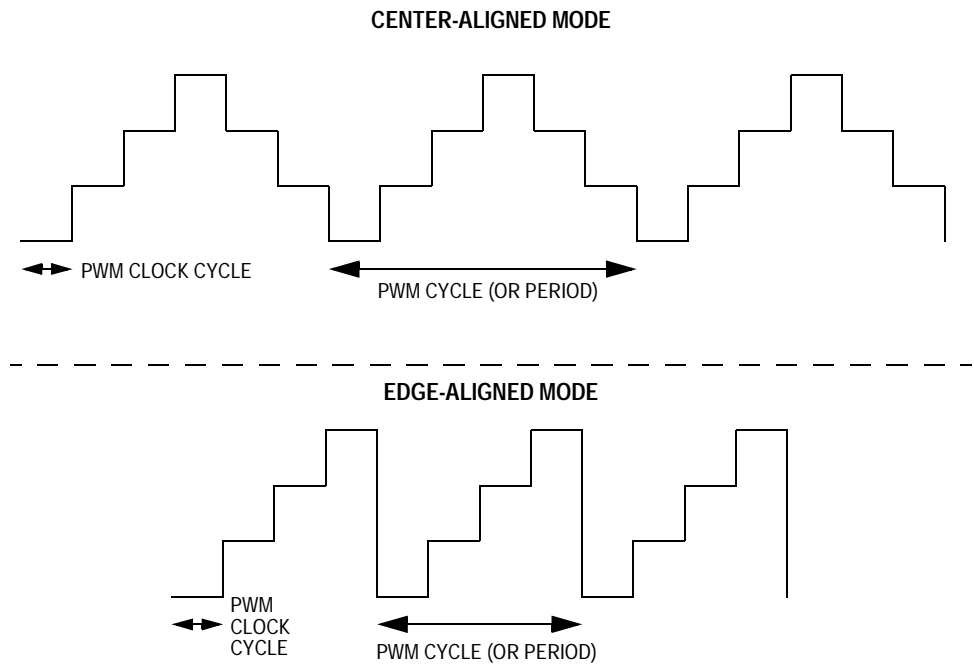

Figure 9-43. PWM Clock Cycle and PWM Cycle Definitions
PWM Clock Cycle (or Period) — One tick of the PWM counter ($1/f_{OP}$ with no prescaler). See **Figure 9-43**.
- Center-aligned mode: The time it takes the PWM counter to count up and count down (modulus * $2/f_{OP}$ assuming no prescaler). See **Figure 9-43**.
- Edge-aligned mode: The time it takes the PWM counter to count up (modulus/ f_{OP}). See **Figure 9-43**.